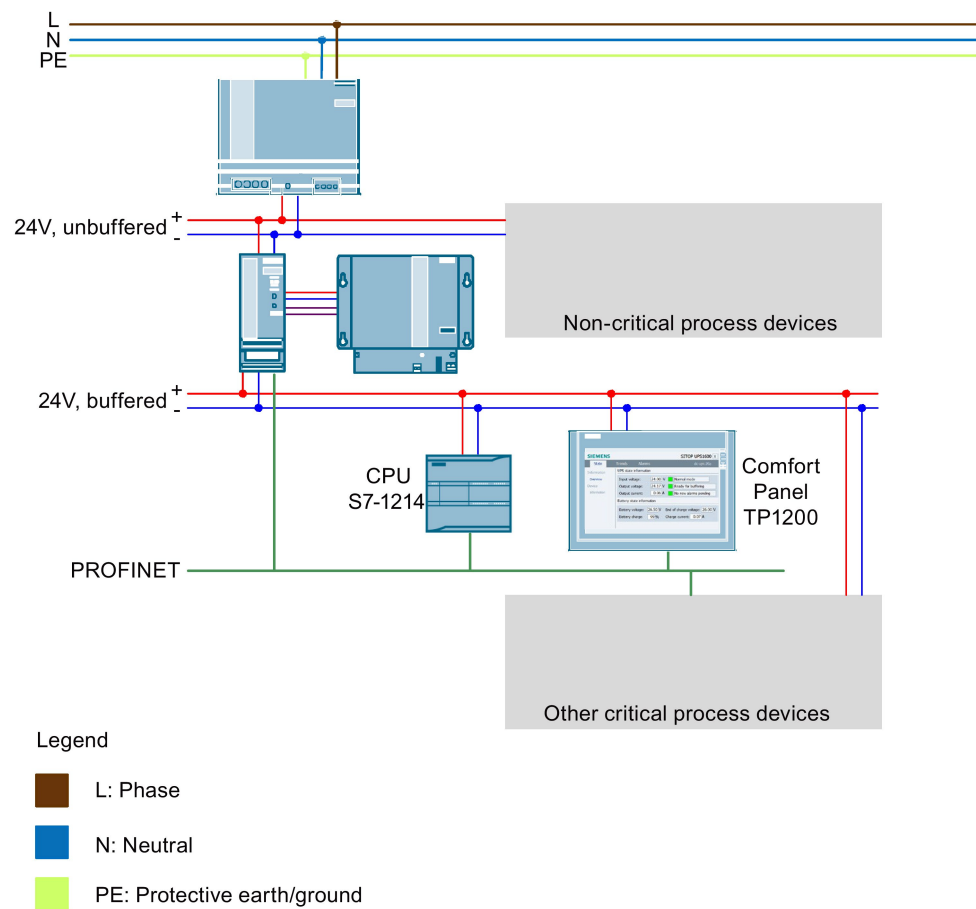

Figure 4-1
The table below describes the function of the Hardware (HW) components used in figure 4-1.